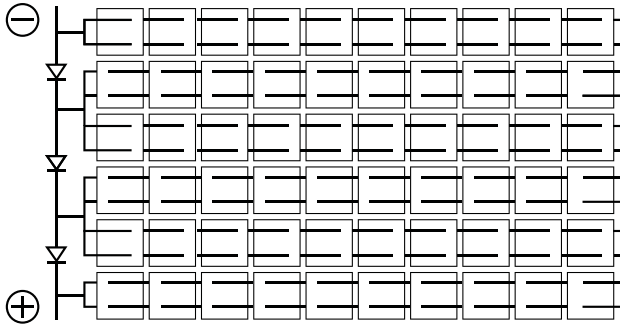

Figure 14. Bypass diodes and cells electrical circuit.
• Diodes are used as bypass diodes. Rated Average Forward Current 10 A (above maximum system current at highest module operating temperature). Rated Repetitive Peak Reverse Voltage 50 V (Above maximum system voltage at lowest module operating temperature). See figure 14 for a diagram showing how the cell strings are electrically connected with the diodes.